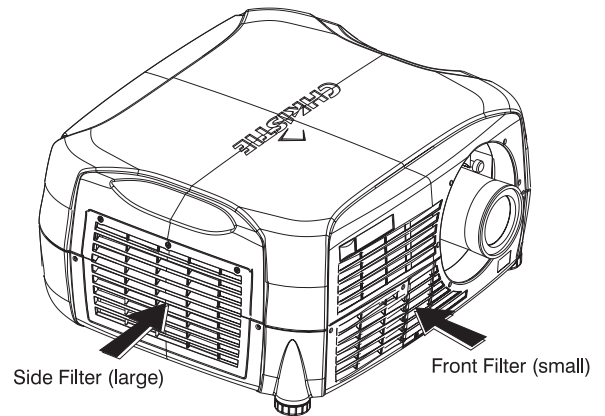

Figure 4.6.
1. Loosen the screw(s) from the filter access panels. The front access panel is located to the left of the projection lens – 1 screw. Left side access panel – 3 screws. See Figure 4.6.